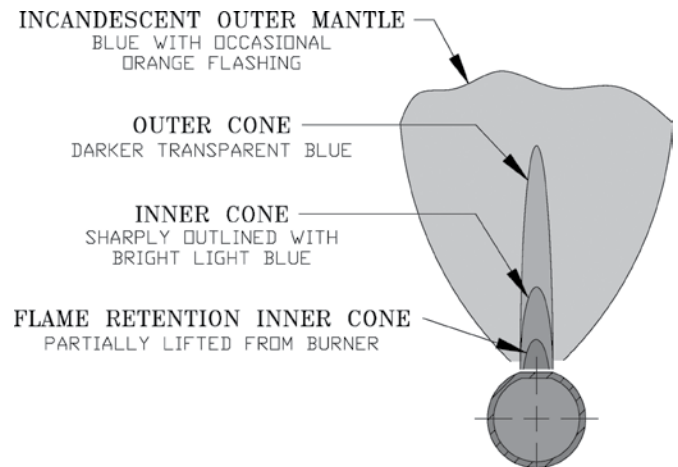

Figure 18: Main Burner Flame
- K. Check main burner flame.** See Figure 18. Flame should have clearly defined inner cone with no yellow tipping. Orange-yellow streaks should not be confused with true yellow tipping.